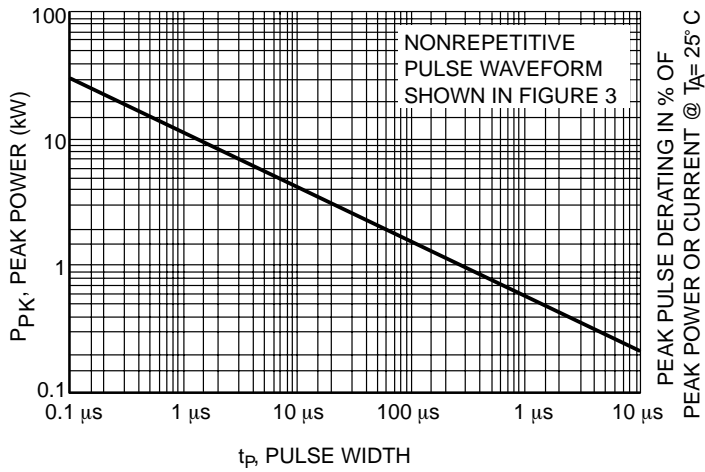
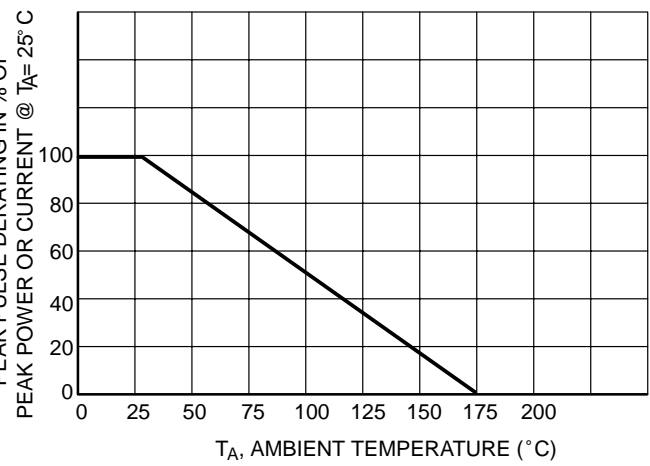
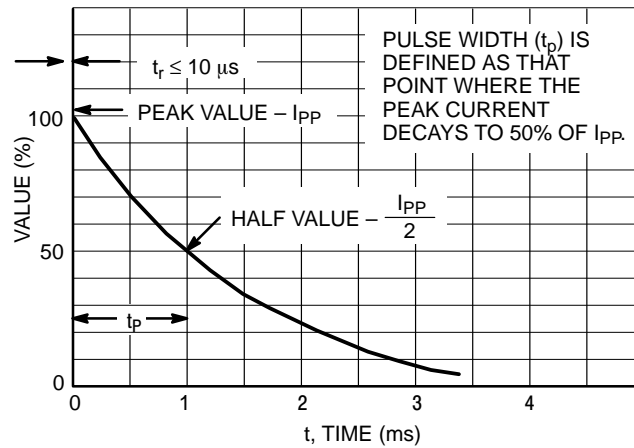
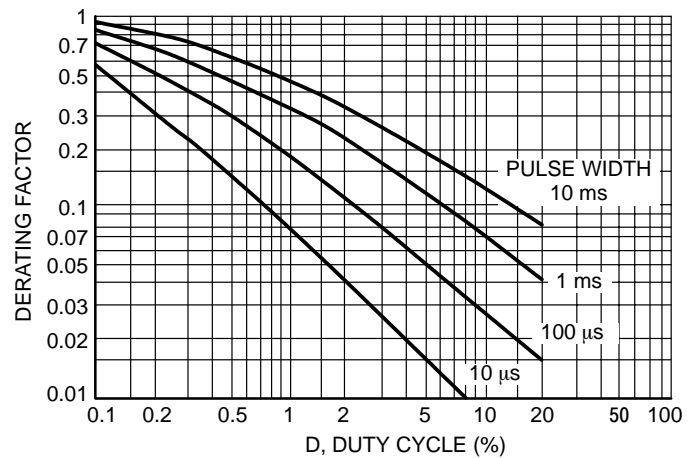

Figure 1. Pulse Rating Curve
Figure 2. Pulse Derating Curve
Figure 3. Pulse Waveform
Figure 5. Typical Derating Factor for Duty Cycle
1. Nonrepetitive current pulse per Figure 3 and derated above $T_A = 25^\circ\text{C}$ per Figure 2.
3. Surge current waveform per Figure 3 and derate per Figures 1 and 2.
The data of Figure 1 applies for non-repetitive conditions and at a lead temperature of 25°C . If the duty cycle increases, the peak power must be reduced as indicated by the curves of Figure 5. Average power must be derated as the lead or ambient temperature rises above 25°C . The average power derating curve normally given on data sheets may be normalized and used for this purpose.
At first glance the derating curves of Figure 5 appear to be in error as the 10 ms pulse has a higher derating factor than the 10 μs pulse. However, when the derating factor for a given pulse of Figure 5 is multiplied by the peak power value of Figure 1 for the same pulse, the results follow the expected trend.